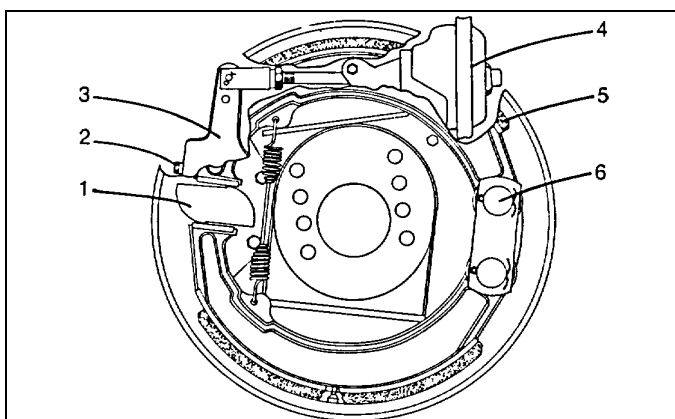

Fig. 3-7
3-6 Front Wheel Brake Adj. (Fig. 3-7)
- (c) Turn the adjusting screw (2 in Fig. 3-7) on the slack adjuster until the brake shoes contact the drum and prevent wheel rotation.